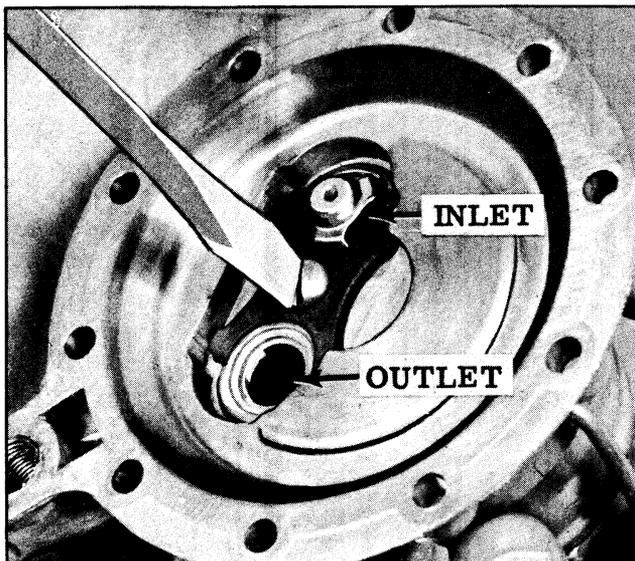

Fig. 8-67 Valves and Retainer
5. Remove retainer screw from cover and lift out retainer, two valves, and two gaskets. (See Fig. 8-67)
4. Place valve gaskets in recesses provided in fuel cover. Place valve assemblies on top of gaskets. Inlet valve must have spring cage facing out of cover, and the outlet valve must have the spring cage facing into cover. Secure valve assemblies with retainer and screws. (See Fig. 8-67)